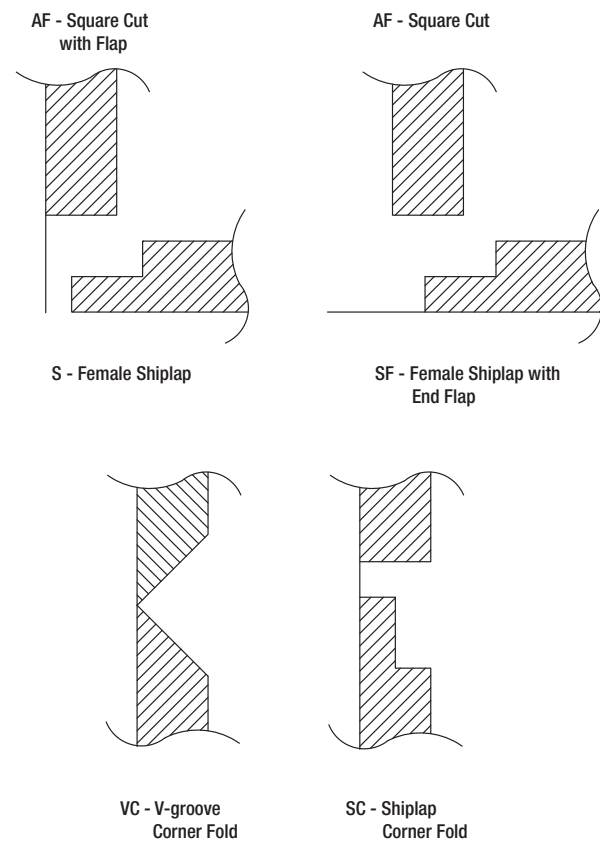

Figure 9- Cutting Duct board
- 3) Edge and corner preparation shall be accordance with details shown (**Figures 9 and 10**). Plenum top shall be fabricated and attached using similar method, S-AF and SF-AF (**Figures 9 and 10**).